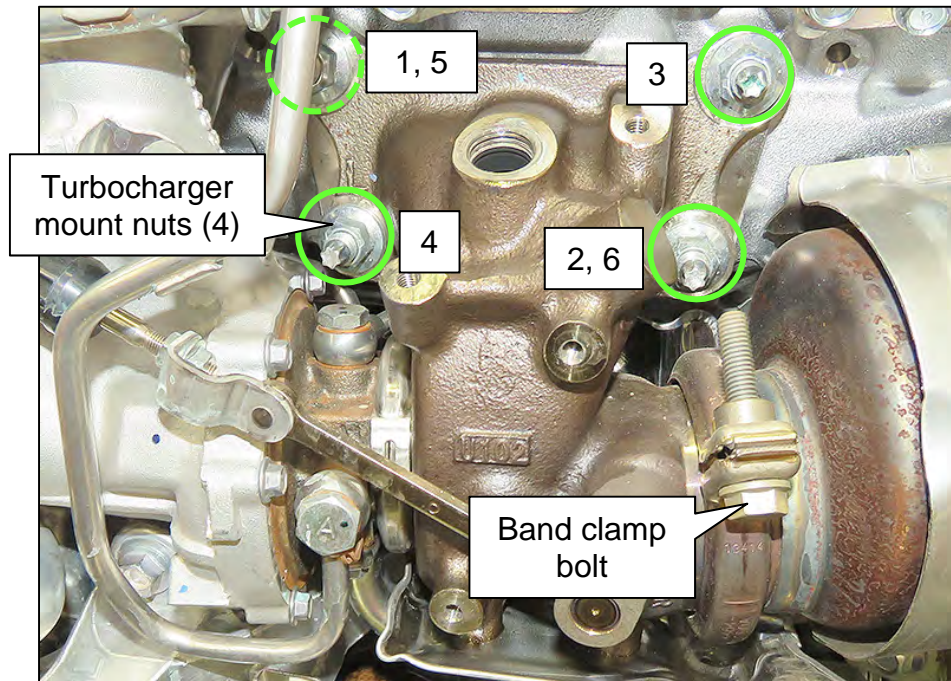

Figure 83
132. Install all four (4) turbocharger mount nuts, and then torque them in the order (from 1 to 6) shown in Figure 83.